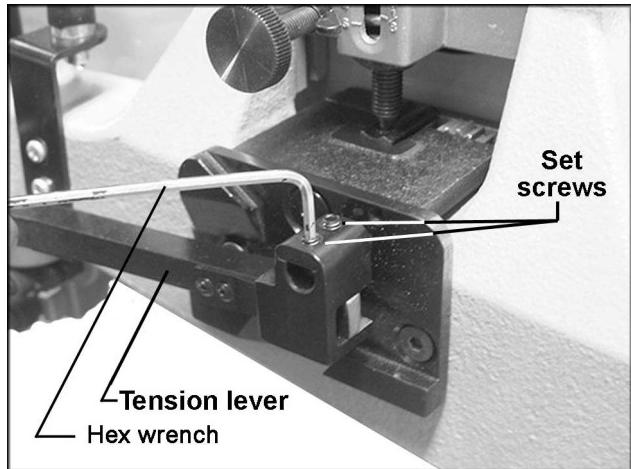

Fig. 11a
- Install blade tension lever (Fig. 11a) and tighten the set screws, using a 3mm hex wrench. The movement of the blade tension lever is explained under "Changing Blades".